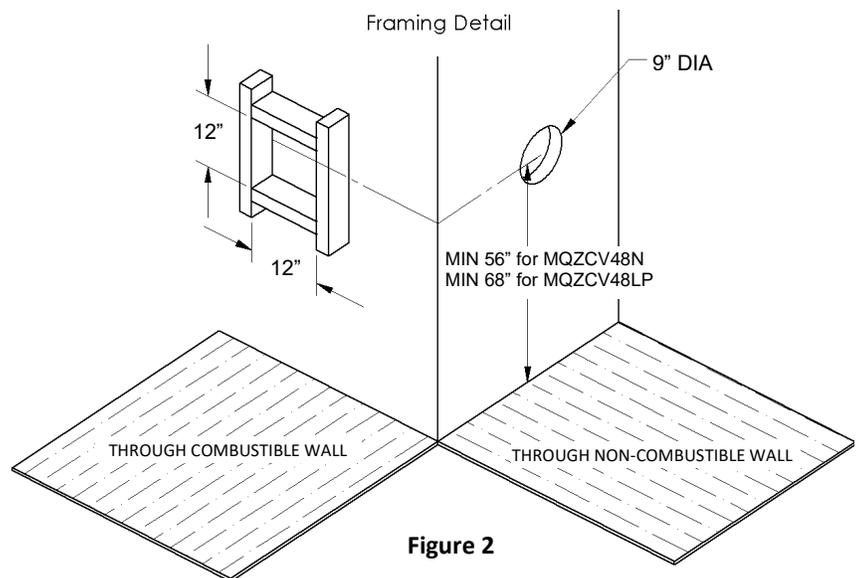

Figure 2
1. To determine the minimum distance from the bottom of fireplace to center of vent see the **Framing Your Gas Fireplace** section. Cut a hole through the wall allowing for a 12" x 12" (inside diameter) in combustible walls for wall thimble or a 9" diameter hole in a non-combustible wall (See Figure 2).